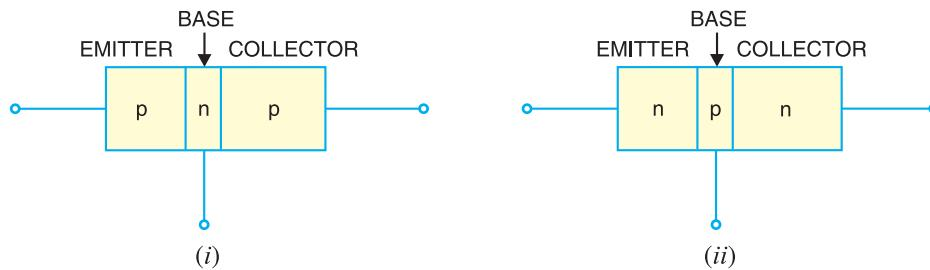

Fig. 8.3
**(i)** The transistor has three regions, namely ; **emitter**, **base** and **collector**. The base is much thinner than the emitter while \*\*collector is wider than both as shown in Fig. 8.3. However, for the sake of convenience, it is customary to show emitter and collector to be of equal size.